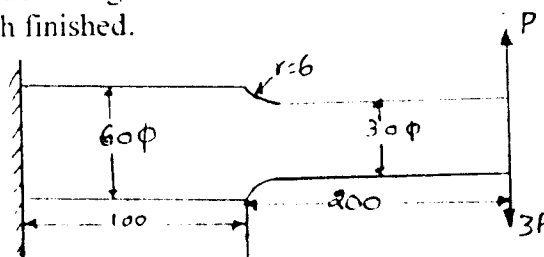

Fig. 3(b)
- b. A SAE1025 water quenched steel rod ($\sigma_u = 620.8$ MPa, $\sigma_y = 400.1$ MPa, $\sigma_{-1} = 345.2$ MPa) of circular cross section, shown in fig. 3(b), is subjected to load varying from P to 3P. Determine the value of P. The stress concentration factor may be taken as 1.4. Analyse the member at the change of cross section. Use factor of safety = 3. Assume the surface to be rough finished. (10 Marks)